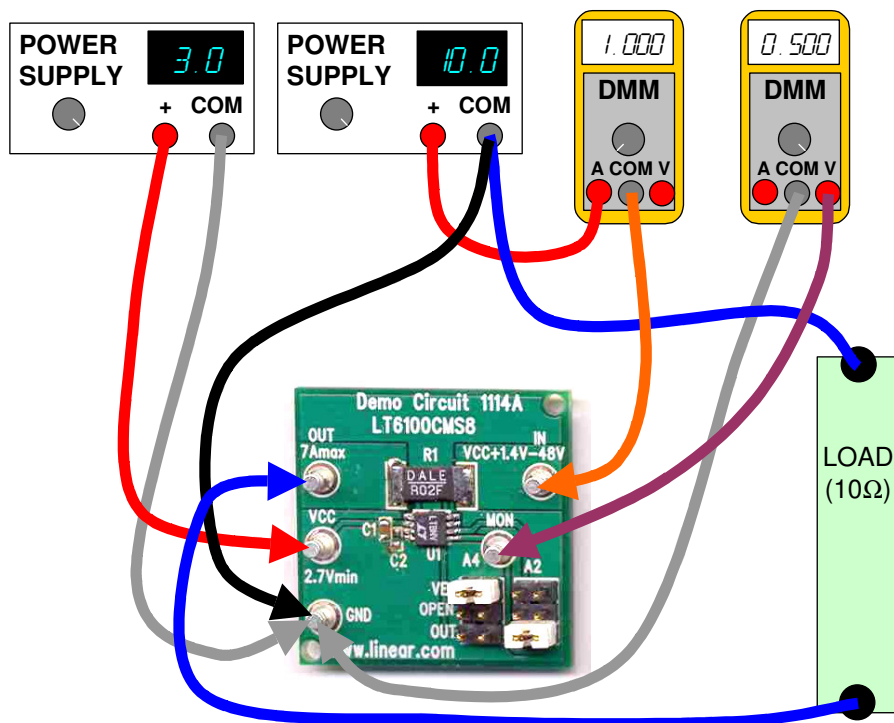

Figure 1. Proper Measurement Equipment Setup
Demonstration circuit 1114 is easy to set up to evaluate the performance of the LT6100. Refer to Figure 1 for proper measurement equipment setup and follow the procedure below:
2. With power off, connect the load driving power supply positive to IN and the common to GND. This supply should be in the range of 4.1V to 48V. If this supply is not equipped with an accurate current readout, a DMM (set to measure Amperes) may be connected in series with the supply as shown in Figure 1.